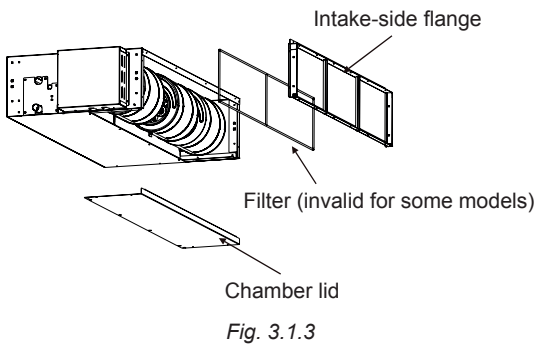

Fig. 3.1.3
- 1 Remove the intake-side flange, then remove the chamber lid. Refer to Fig. 3.1.3 for directions.